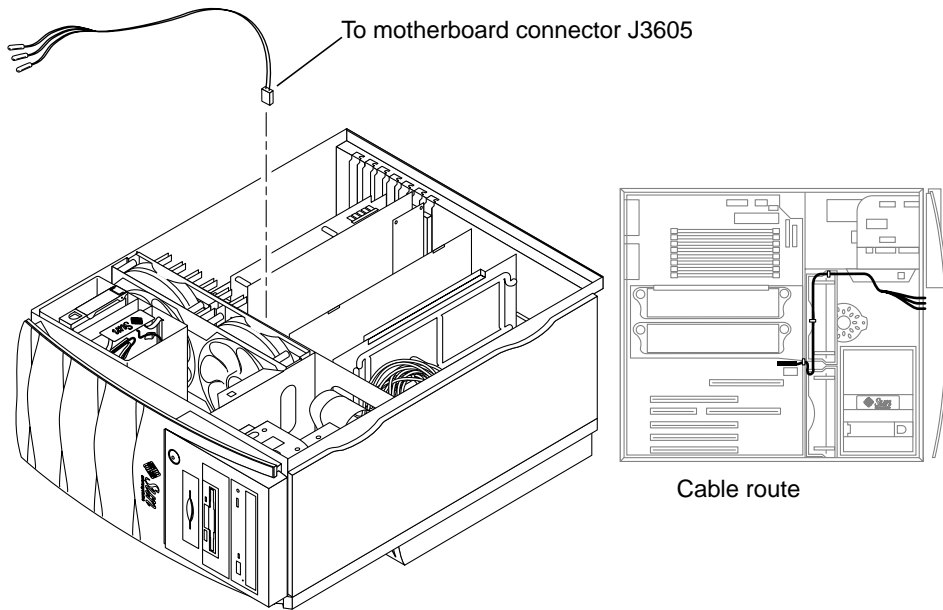

FIGURE 6-11 Removing and Replacing the Logo LED Cable Assembly
4. **Disconnect the logo LED cable assembly as follows (FIGURE 6-11):**
1. Position the logo LED cable assembly in the chassis (FIGURE 6-11).